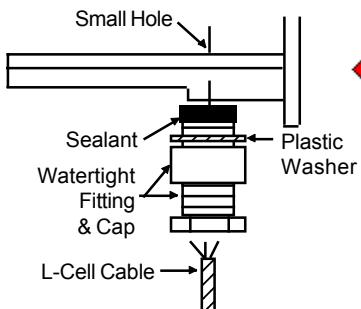
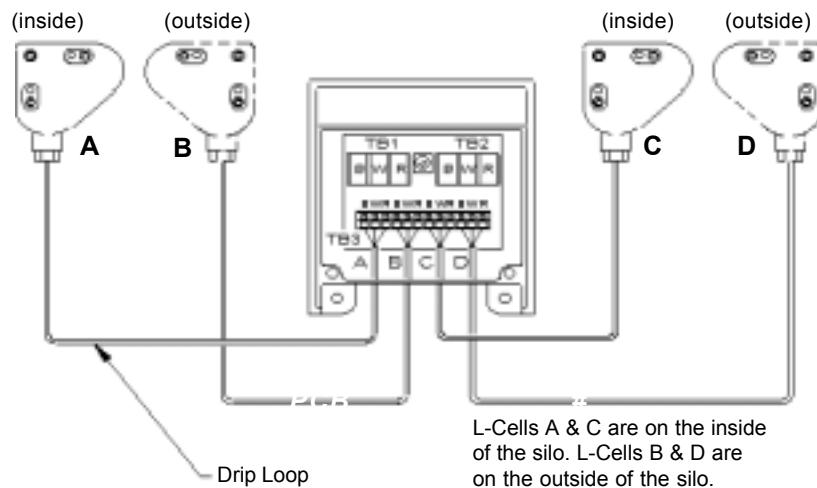

Figure 5-36.
Figure 5-39. Wiring L-Cells to Junction Box (inside view of skirt)
2. See Figure 5-36. Place a plastic washer on the watertight fitting. Thread the L-Cell cable through a cap and watertight fitting. Leave an adequate length of cable between the L-Cell and fitting to provide a drip loop (see Figure 5-39).
3. See Figure 5-36. Spread a generous bead of sealant around the threads of the watertight fitting.